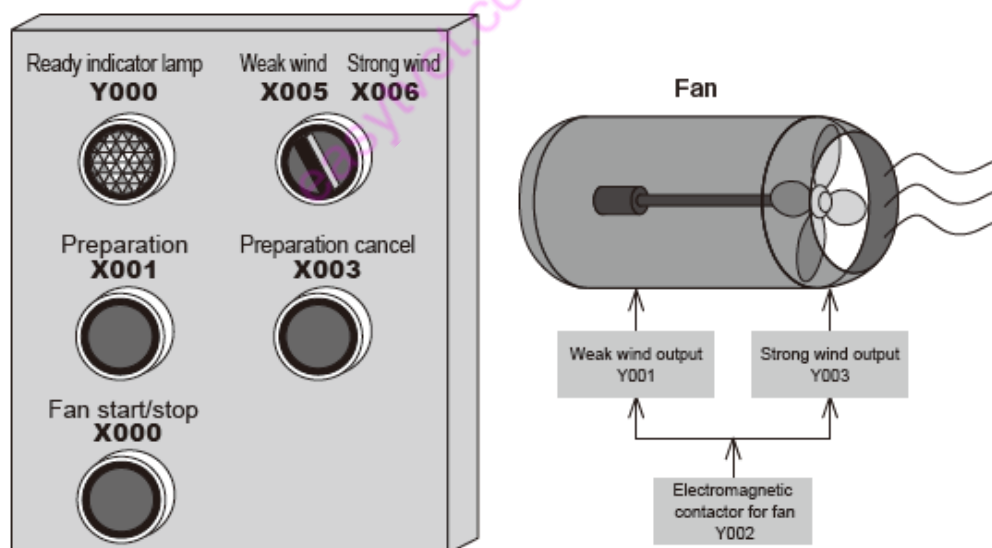

Figure 3
12. Given the components on Figure 3, the following operations are expected;